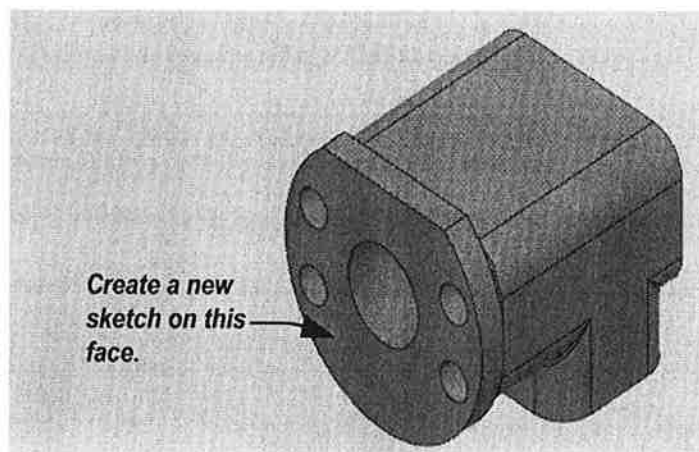

Figure 16–11
5. Create a new sketch on the face shown in Figure 16–11.